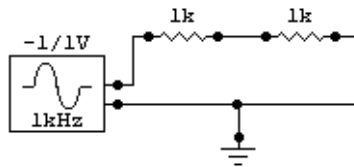

Figure 3.8. A simple AC circuit with a Signal Generator and two Resistors.
- 2 Draw the circuit as shown in Figure 3.8, using the following devices: